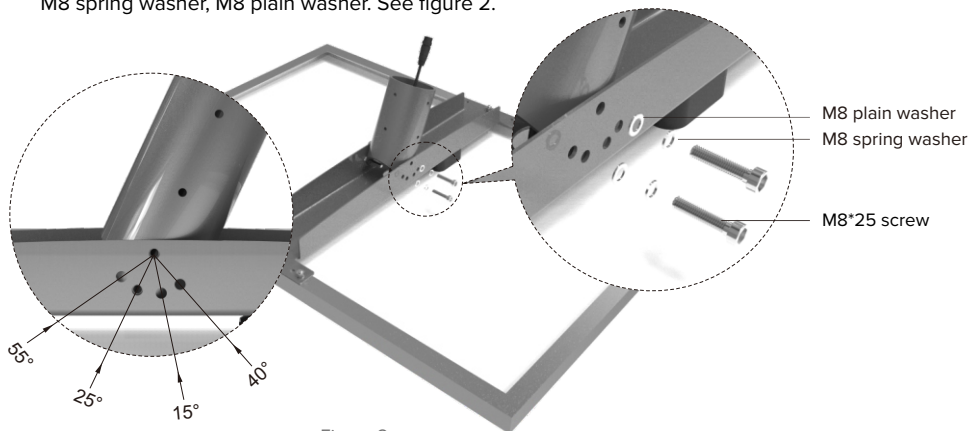

Figure 2
- 2 Choose an appropriate angle to fasten the bushings, the accessories are M8\*25 screw, M8 spring washer, M8 plain washer. See figure 2.